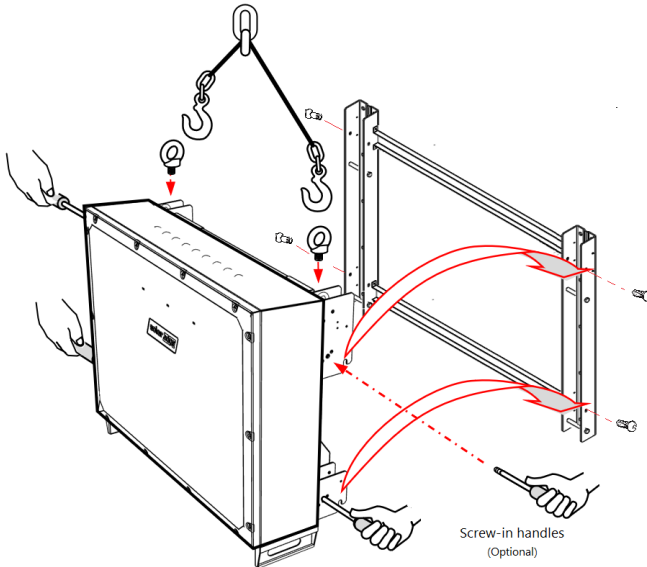

Figure 19: Mounting the inverter before wiring is laid down
1. If optional screw-in handles are used, anchor the screw-in handle to any point at the inverter (see Figure 19).
4. Align the four hangers on the back inverter enclosure with the mounting bracket and lower the inverter until it rests on the bracket evenly (see *Figure 19*).
1. If optional screw-in handles are used, anchor the screw-in handle to any point at the inverter (see *Figure 19*).
6. Align the four hangers on the back inverter enclosure with the mounting bracket and lower the inverter until it rests on the bracket evenly (see *Figure 19*).